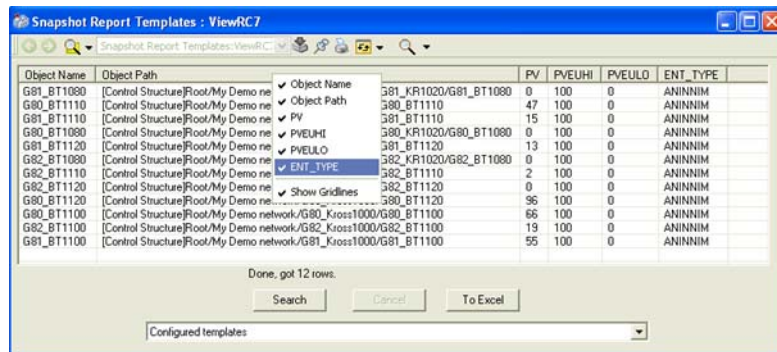

Figure 31. Hide/show column rows
- Hide or show columns through right-click on the Grid header row, select or deselect columns as shown in Figure 31.